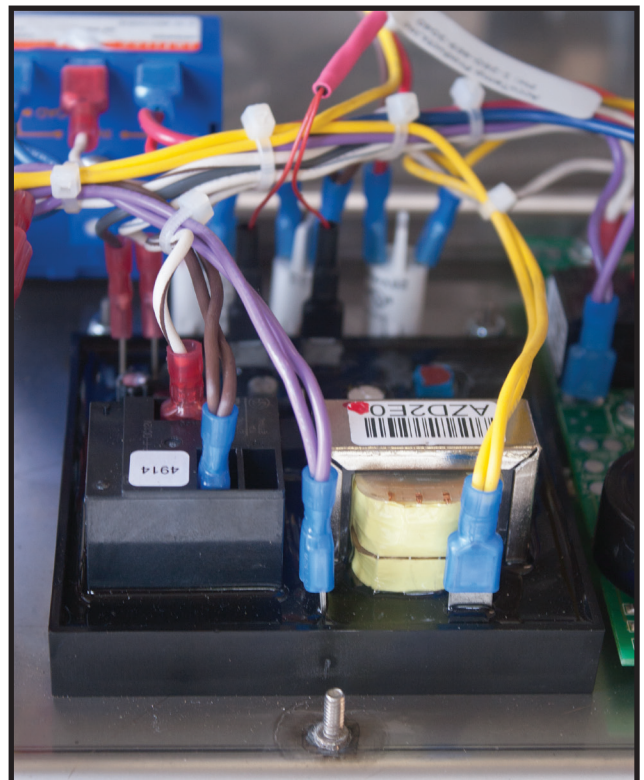

Fig 7.2B
4. Remove nuts and washers securing board to panel, remove panel (Fig 7.2B).